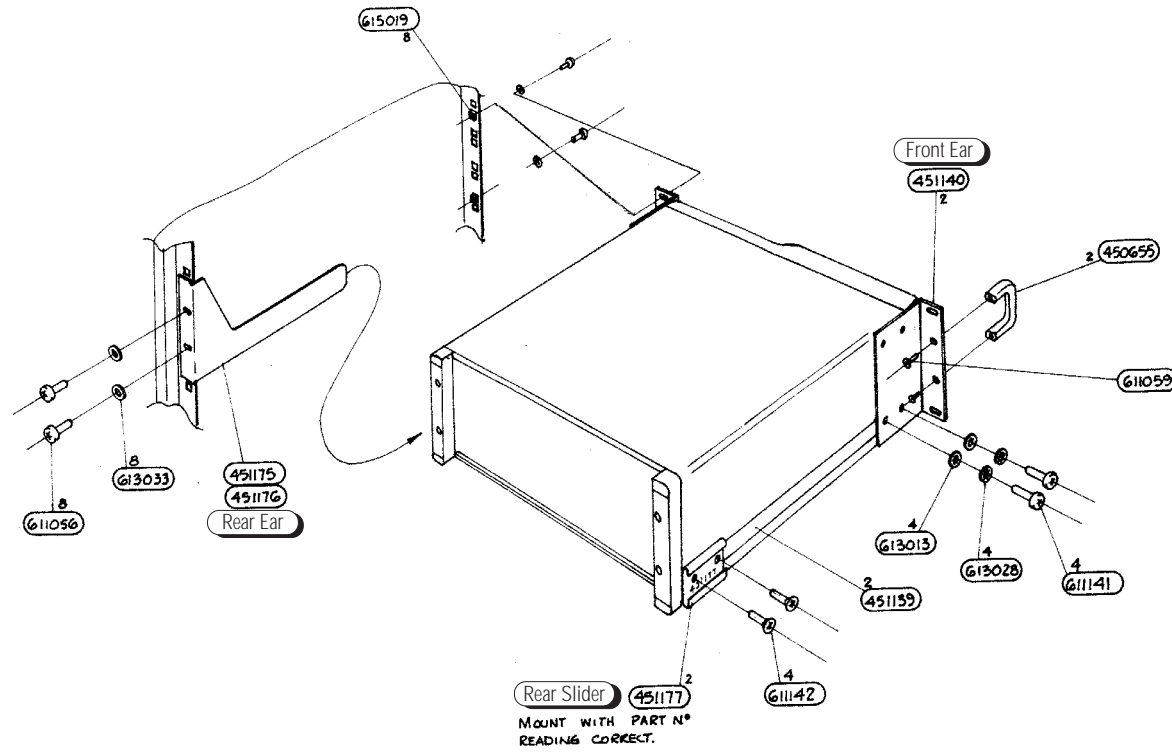

Fig. 2.1 Option 90 — Rack Mounting Kit — Fitting
2.7.1.2 Option 90 — Rack Mounting *(Fig. 2.1)*
Option 90 permits the instrument to be mounted in a standard 19 inch rack. The method of fitting this option is described below, the locations being shown in *Fig. 2.1*.
- a. Fit the eight M6 cage nuts into the correct cutouts at front and rear of the rack (*see Fig. 2.1*). Squeeze the cage on each nut and insert from the inside of the rack.